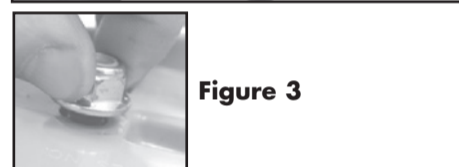

Figure 3
2. Hand tighten the nuts on all bolts. (figure 3) Using a ratchet wrench, tighten nuts starting with the center bolt, keeping the degree of threading on all bolts approximately even as the runner tightens to the ski. (figures 4-6)